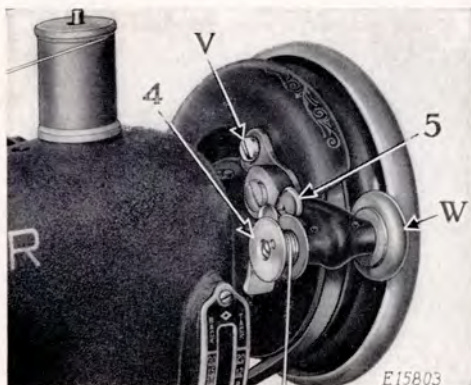

FIG. 6. BOBBIN WINDER ADJUSTMENT
Place the bobbin on bobbin winder spindle, as shown above and in Fig. 6, and push it on as far as it will go. Put the spool of thread on spool pin (1) and pass the thread from the spool pin into thread guide (2), then down and to the right into the lower notch of bobbin winder thread guide (3) at front of machine bed, then around the back of this guide and into its upper notch, then up and through the hole in the left side of the bobbin (4) from the inside. Press down on the bobbin winder and the latch (5, Fig. 6) will drop down and hold the bobbin winder pulley
The end of the thread must be held by hand until a few coils are wound, and should then be broken off. Fig. 6 shows the bobbin winder in position for winding. When sufficient thread has been wound upon the bobbin, the bobbin winder pulley is automatically released from the balance wheel. Remove the bobbin from the spindle.